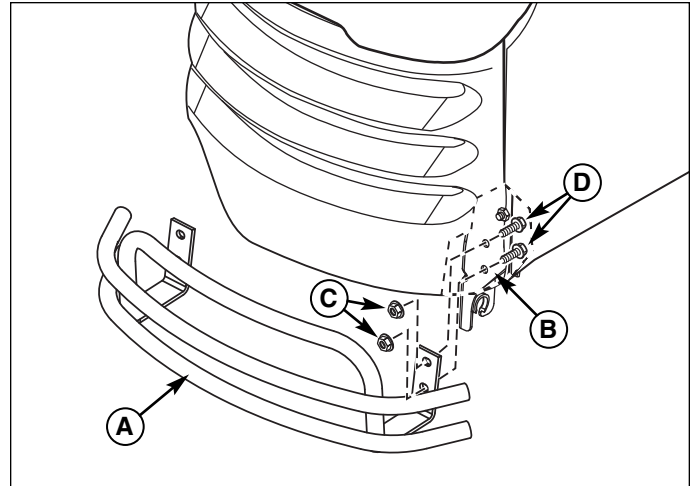

Figure 4.
1. Insert 5/16-18 x 3/4 capscrew (D, Figure 4) through the holes in hinge (B) and the holes in bumper assembly (A).
2. Connect the 5/16-18 locknut (C) to 5/16-18 x 3/4 cap-screw (D). Do not tighten at this time.
3. Repeat steps 1 and 2 for all four holes in bumper assembly (A) and hinges (B).